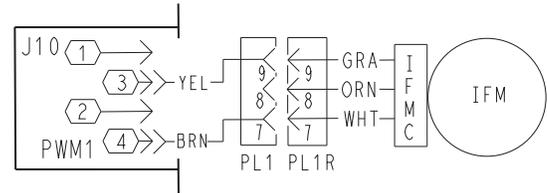

Fig. 8 – Supply Fan Control Wiring Diagram
6. Verify the J10 plug at the SystemVu board is wired per Fig. 8, connected tight, and wires are secured in the plug